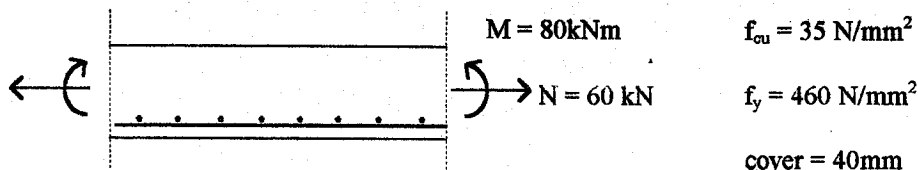

Fig. Q4
4. The section of reservoir wall shown in Fig. Q4 is subjected, under service conditions, to a horizontal bending moment of 80 kNm combined with a direct tensile force of 60 kN, per metre height of wall. The wall is 400 thick and is reinforced horizontally with T16 bars at 125 centres on the principal tensile face. Determine if the design satisfies the requirements of BS8007 for 0.1mm design surface crack width.